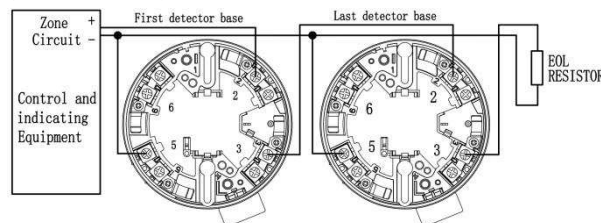

Fig. 1: 2-wire base wiring connections without remote led
- a. See Fig. 1 for detectors using 2-wire bases without remote led.